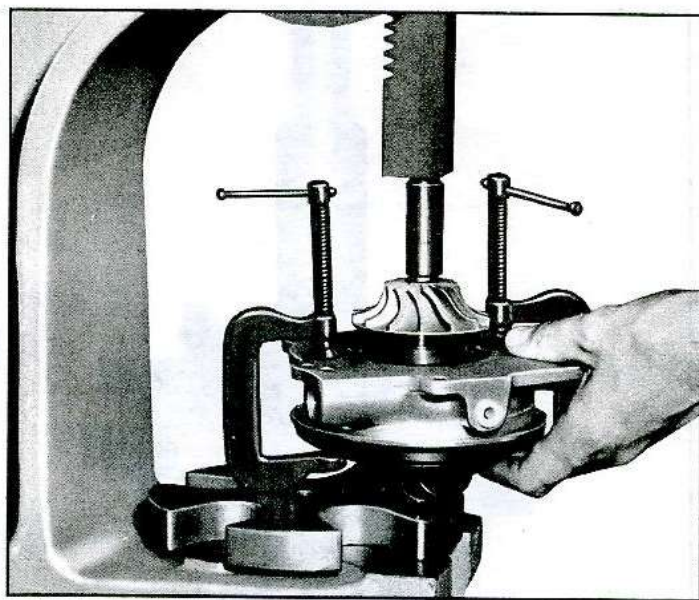

Fig. 53—Impeller Installation
16. Press the impeller onto the shaft, using a hollow spacer such as Tool J-6880 until it bottoms in place (fig. 53), then remove "C" clamps.